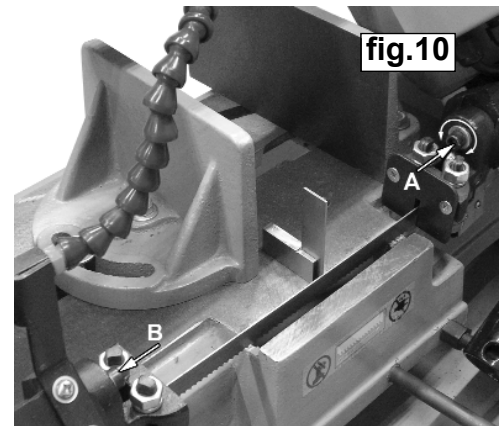

fig.10
- 4.11.2 Place an engineer's set square onto the bed touching the blade as shown in fig10. The blade should make contact with the square across its entire width.